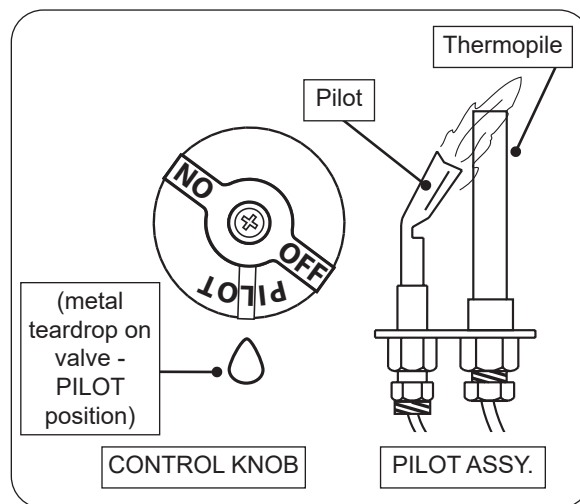

Fig. 29-1 Pilot lighting
3. Locate the pilot assembly on the side or rear of the burner pan (see Fig. 29-1).
4. Turn the control knob counterclockwise ↺ to **PILOT**. Push the knob **firmly and fully** in and hold. Hold a lighted long-stem match/ long-necked butane lighter near the thermopile to light the pilot. Continue to hold the knob in for about one (1) minute after the pilot is lit. Release the knob and it will pop back out. The pilot will remain lit. See Fig. 29-1. If it goes out, repeat steps 2-4.